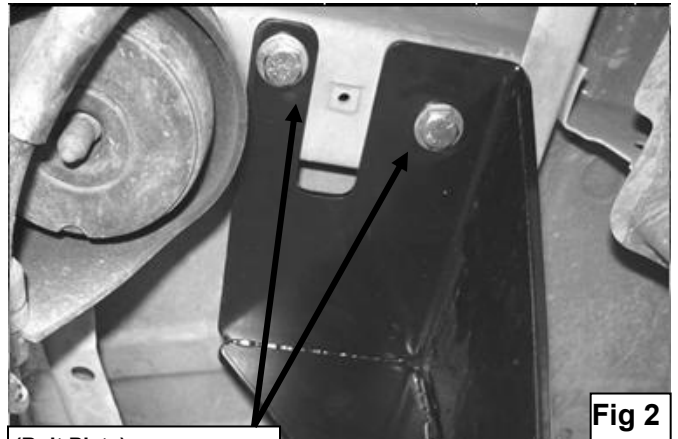

Fig 2
- Partially hang driver side front Mounting Bracket from already inserted Double Nut Plate using the included (2) 10mm x 30mm Hex Head Bolts, (2) 10mm Lock Washers, and (2) 10mm Flat Washers (**Figure 2**).